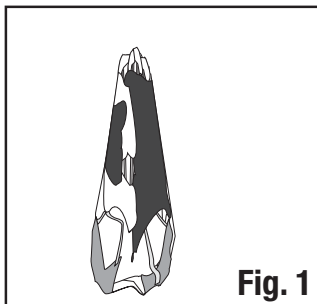

Fig. 1
- Stand the tent upright with the hub assembly at the top. (Fig. 1)
- Collapse the tent by folding the arms upward until the tent stands upright with the hub assembly at the top. (Fig. 1)